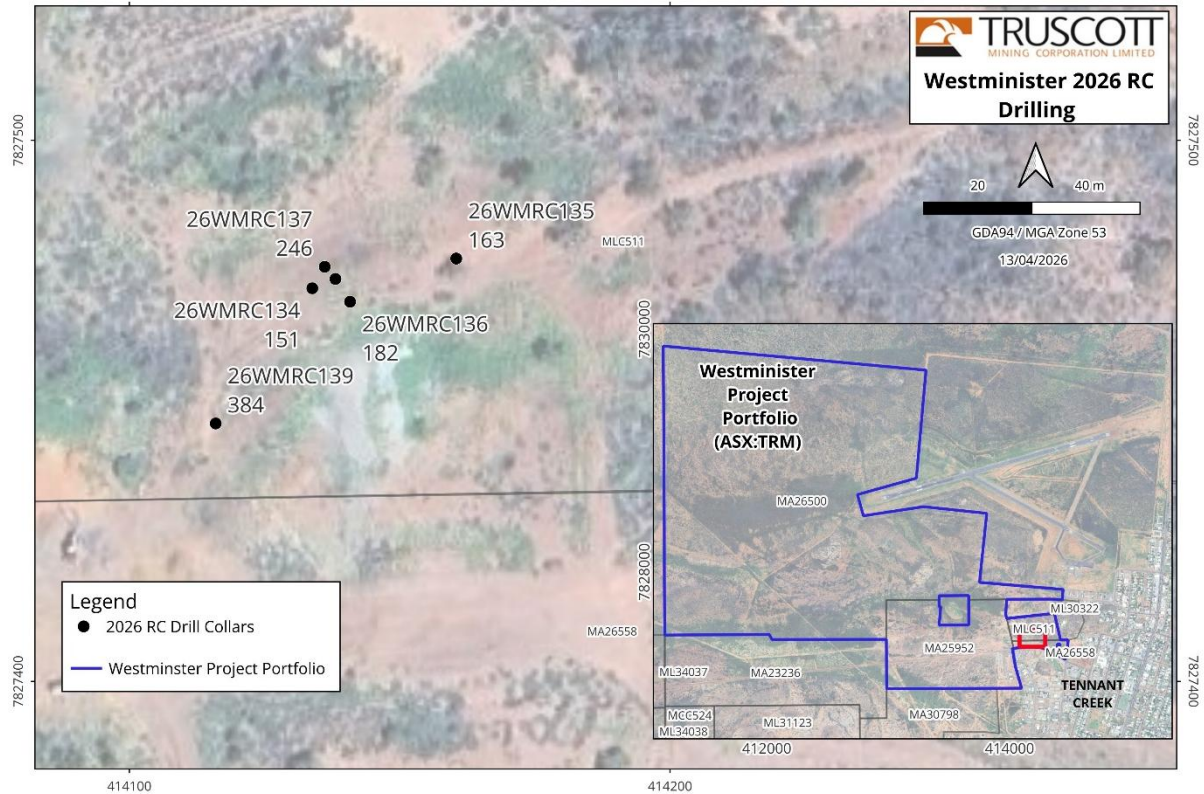

Figure 1: Plan view of 2026 RC drill collars 26WMRC134–139, showing collars (black dots) within modelled zone located on the mining lease ML511.
Six reverse circulation (RC) holes (26WMRC134 – 26WMRC139) were completed at Westminster in February comprising 1312 m (Figure 1).